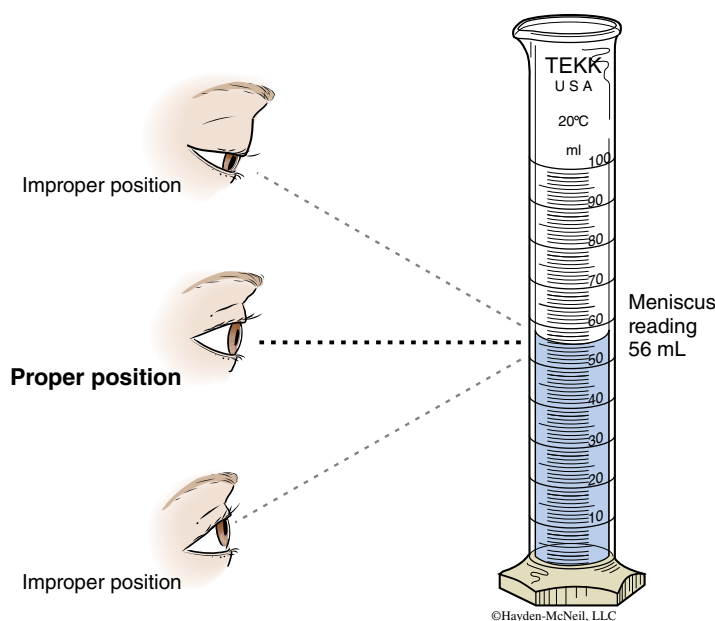

Figure 1-1. Parallax error
When the level of the liquid is being read on the scale (buret or graduated cylinder), or adjusted to a calibration mark (pipet or volumetric flask), it is important that the glassware be *vertical* and the volume read from the bottom of the curved liquid surface (called the **meniscus**) at eye level (see Figure 1-1). The meniscus, can be seen more easily by holding a piece of paper or a paper that is specifically made for this purpose, called a **reading card**, behind the glassware. You might want to try reading a buret or other items both correctly (eye level) and incorrectly (another angle) to see how much difference it makes.
1. Set the graduated cylinder on a flat surface to read the volume. Avoid entrapped air bubbles by slowly pouring liquids down the side of the cylinder. Read the volume as shown in Figure 1-1, interpolating the volume to the nearest 1/10th of the volume marks (0.1 mL in this case).